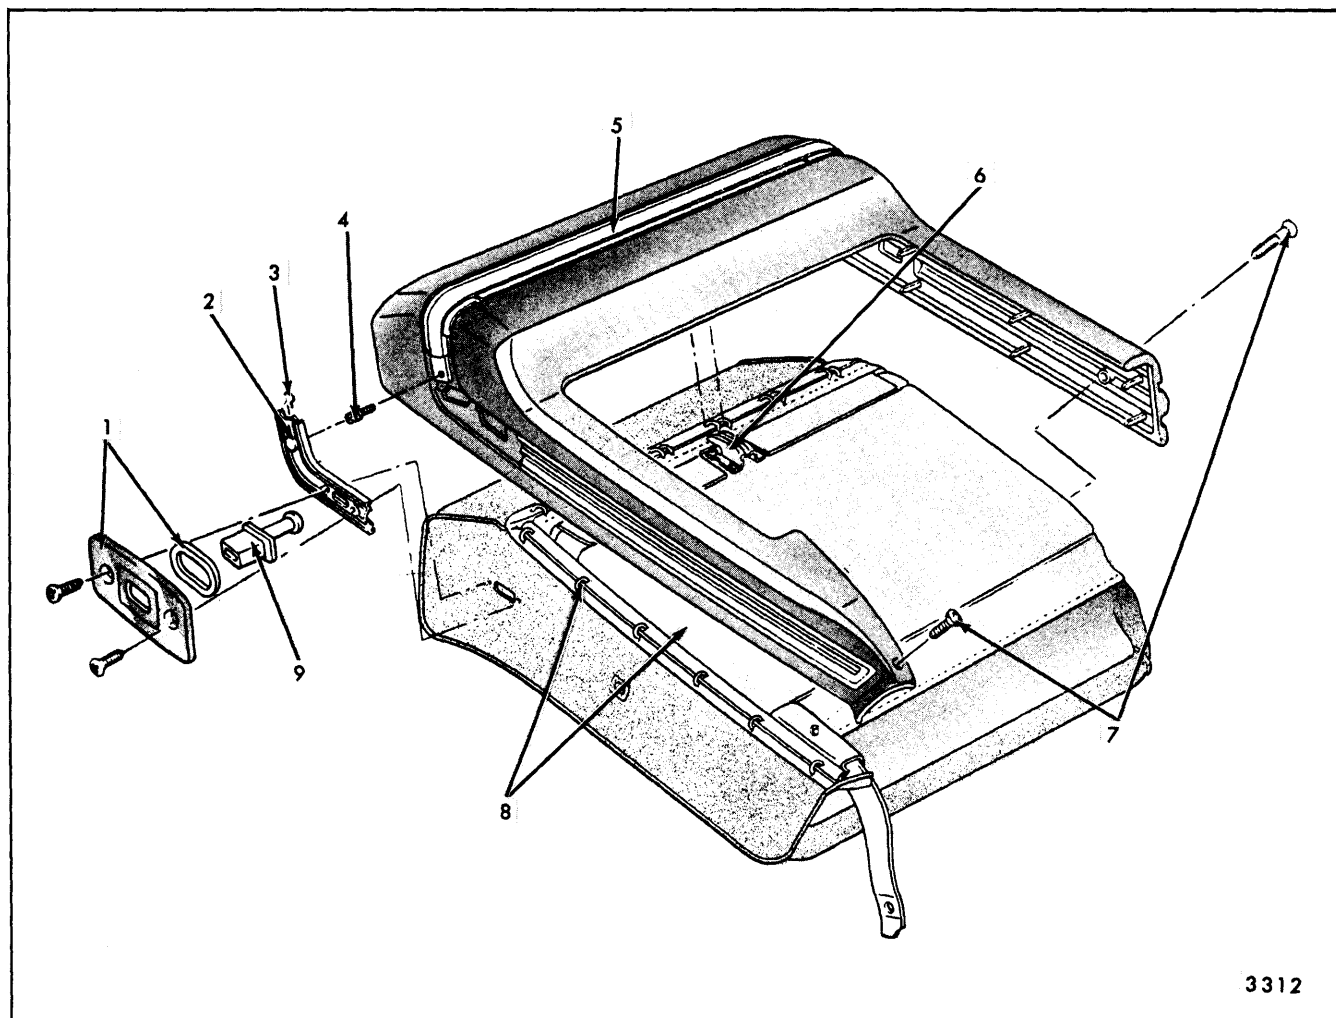

Fig. 15-33—Seat Back Panel and Assist Strap - Cadillac Two-Door Style Standard Seats
1. On two-door styles with manually operated seat back lock, remove lock push button escutcheon, push button and ferrule (Fig. 15-33).
2. Remove seat back panel attaching screws (Figs. 15-33 and 15-34).
3. Carefully lift panel upward to disengage upper center of panel from hanger bracket (Fig. 15-33 and 15-34).
4. To remove seat back trim, remove hog rings securing trim and foundation to seat back side upper and lower frames (Fig. 15-33 and 15-34).